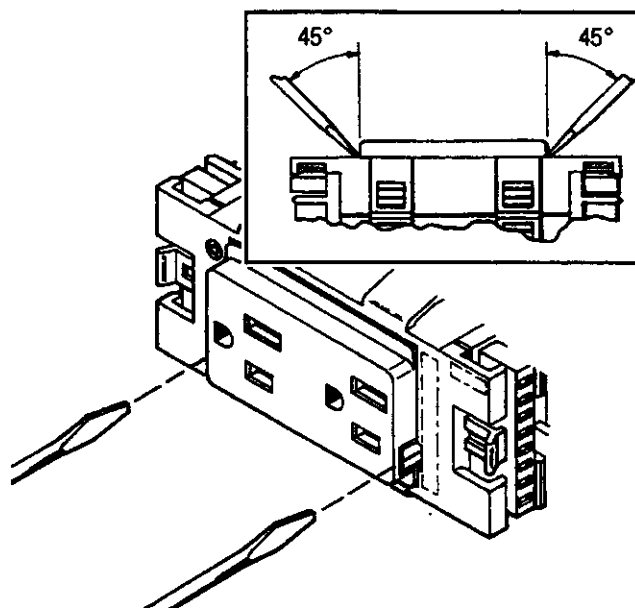

Figure 3
1. To extract a duplex receptacle, it is recommended that two flat-blade screwdrivers be used. Fit each screwdriver blade into the slot between the locking latch of the receptacle and the side of the junction box as shown in Figure 3. The screwdriver handles should be positioned at about 45° angles.